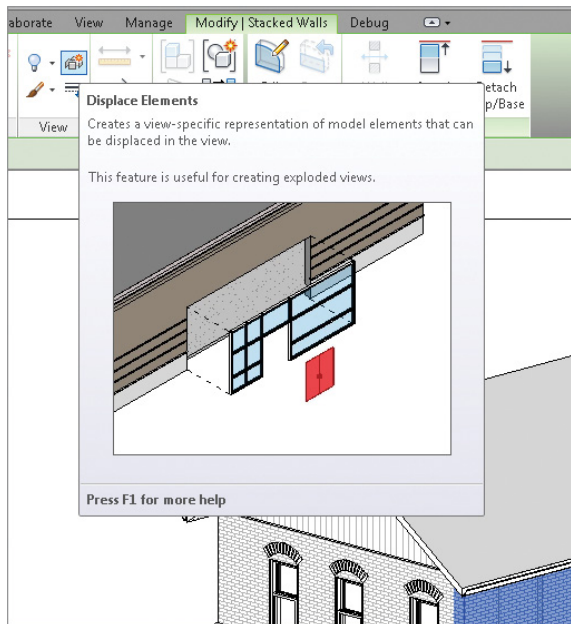

FIGURE 9.13 Displace Elements
1. Select the large brick wall, and click the Displace Elements button on the View panel of the Modify tab (Figure 9.13).